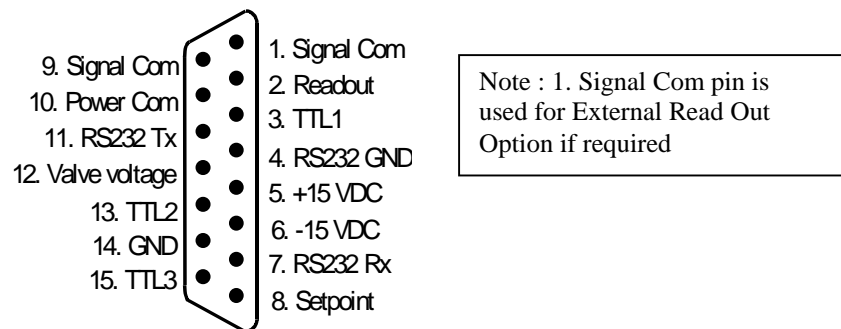

Figure 2-3 Pin arrangement for digital Card connector.
The electrical connections of the AFC80.MD - AFC90.MD are made through a sub D 15 connector (see figure 2-3). RS 232 adapters for use in maintenance functions are available (model 4).
3. Check that the output signal matches the external reading. For pin assignments see figure 2-3.